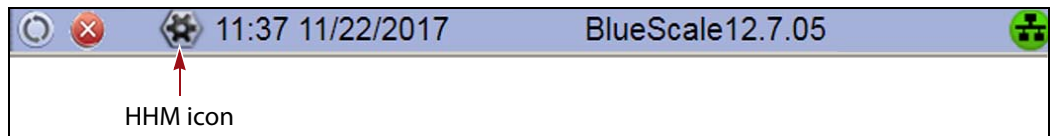

Figure 205 The HHM icon is located on the status bar.
3. Click the HHM icon on the status bar (see Figure 205 on page 355). The Hardware Health Monitoring screen displays.